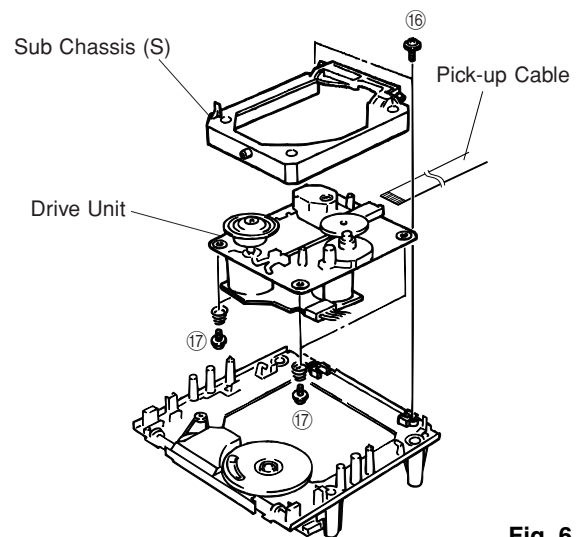

Fig. 6
- Remove 2 screws (16) in Fig. 6.
- Remove the Pick-up Cable in Fig. 6.
- Remove 4 screws (17) and then remove the Drive Unit in Fig. 6.